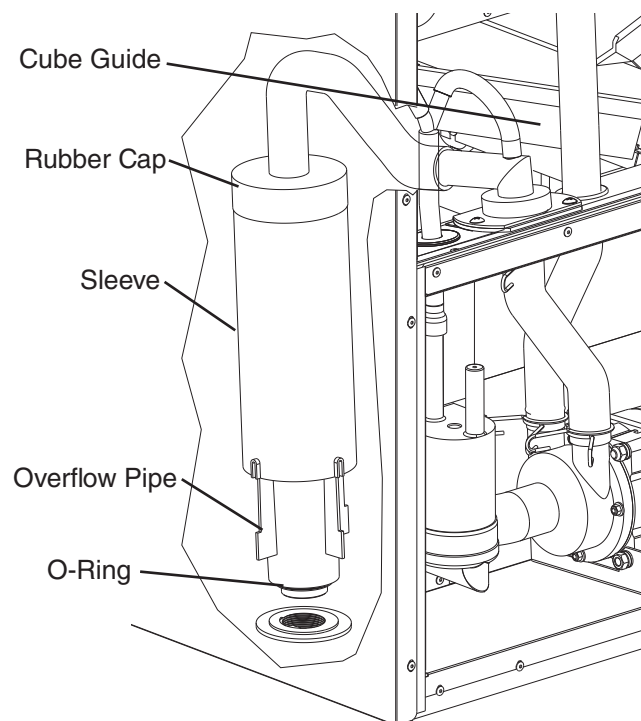

Fig. 3
- 3) Drain the water tank. Remove the front insulation panel, then slide the cube guide to the right. Remove the rubber cap and sleeve covering the overflow pipe. See Fig. 3. Unscrew the overflow pipe. After the water tank has drained, reconnect the overflow pipe. Replace the rubber cap, sleeve, cube guide, and front insulation panel in their correct positions. **NOTICE! Make sure the O-ring is attached to the bottom of the overflow pipe and be careful not to cross thread the overflow pipe.**